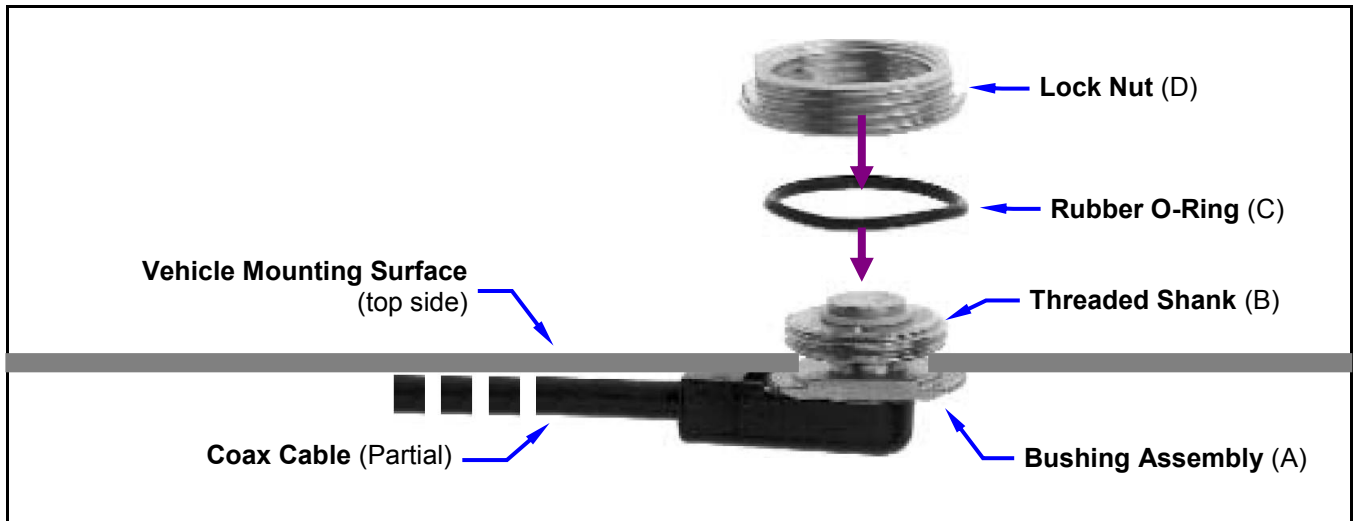
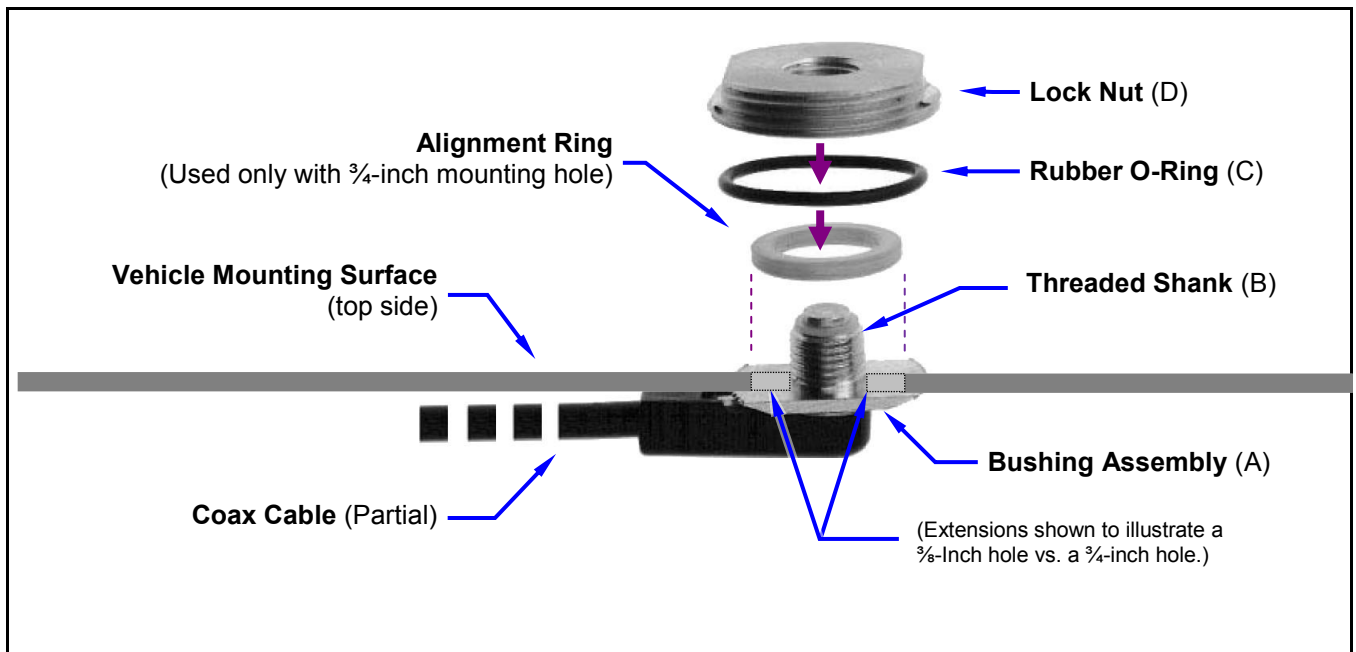

Figure 8-3: Installing a Standard 3/4-Inch NMO Antenna Mount
Figure 8-4: Installing a Thick-Roof NMO Antenna Mount
12. As illustrated in Figure 8-3 and Figure 8-4, add the O-ring (C) and lock nut (D) to the top of the mount's bushing assembly (A). With the O-ring in the groove in the underside of the lock nut, thread the lock nut onto the bushing assembly. Be sure the O-ring remains in the groove before tightening the lock nut.
2. Place the gasket included with the antenna element (not pictured in Figure 8-3 or Figure 8-4) around the mount and against the surface of the vehicle. If a lubricant or sealant was included with the gasket, apply it to the gasket before placing the gasket.